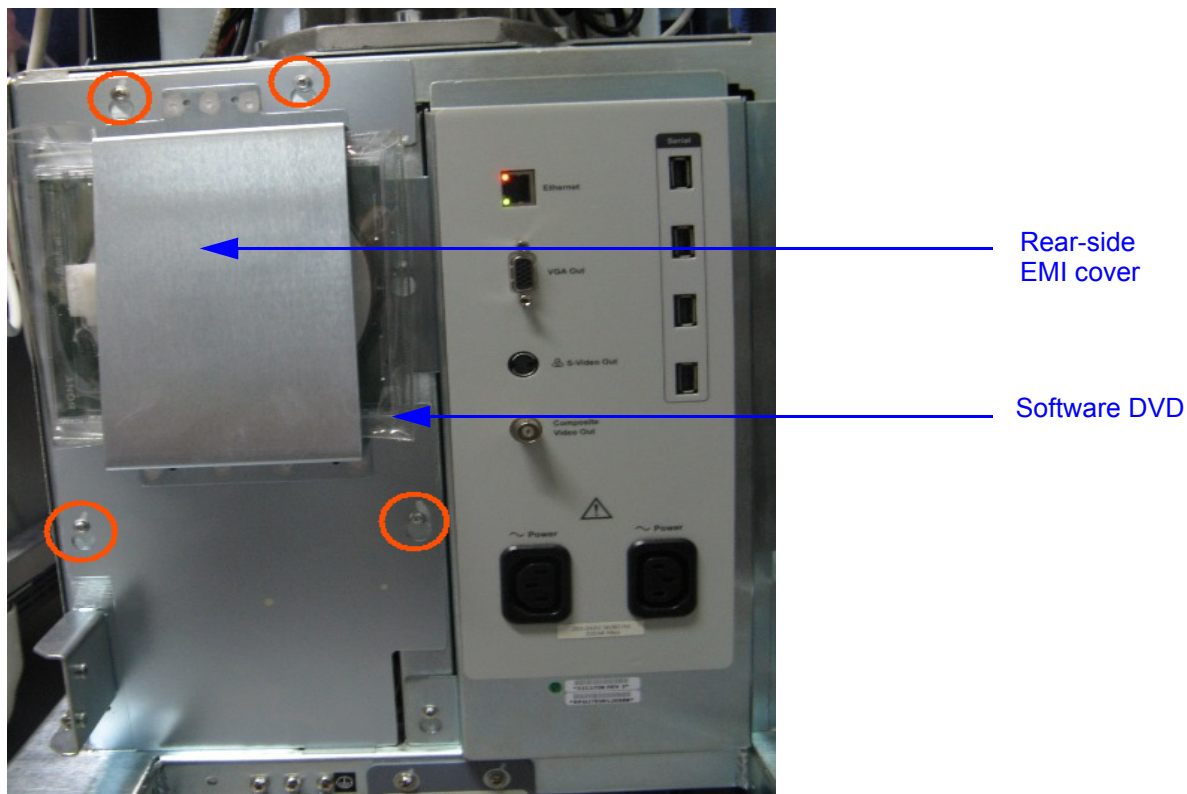

Figure 8-36 Rear-side EMI cover
- 4) Remove Rear-side EMI cover. Refer Figure 8-36 on page 8-43 for details on how to remove Rear cover.